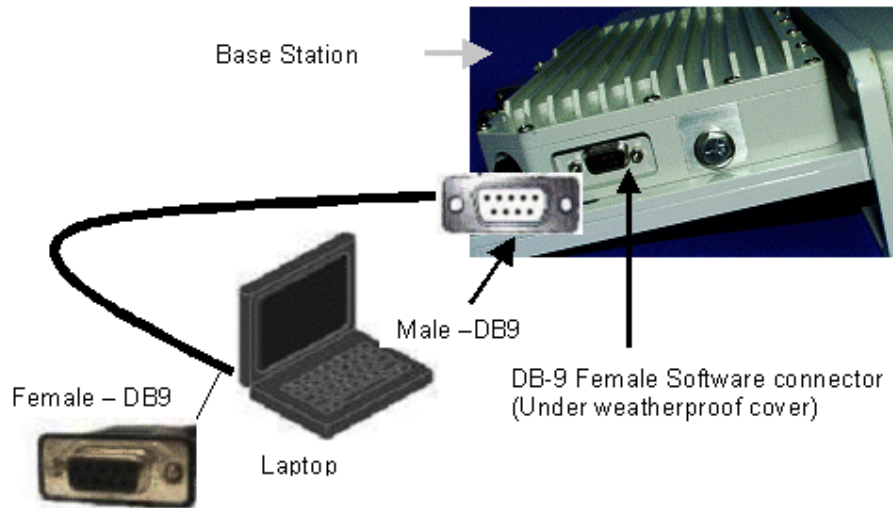

Figure 5-10: BS Software Connection
1. Referring to Figure 5-10, locate the software connector weatherproof cover at the underside of the BS RFU. Release the four fixing screws and put them along with the cover in a safe place.